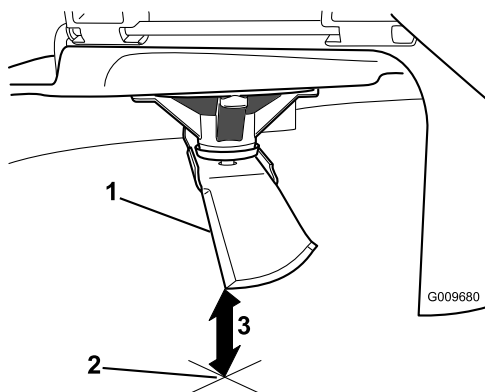

Figure 45
5. Measure from the tip of the blade to the flat surface (Figure 45).